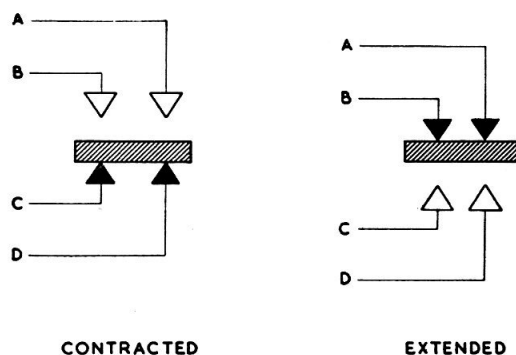

Fig. 3. Contact arrangement
4. Terminal brackets at the trip lever end of the switch carry 10 B.A. terminal screws for contacts C and D, and on the top of the switch are 6 B.A. terminal nuts for contacts A and B. The contact arrangement is shown in *fig. 3*.